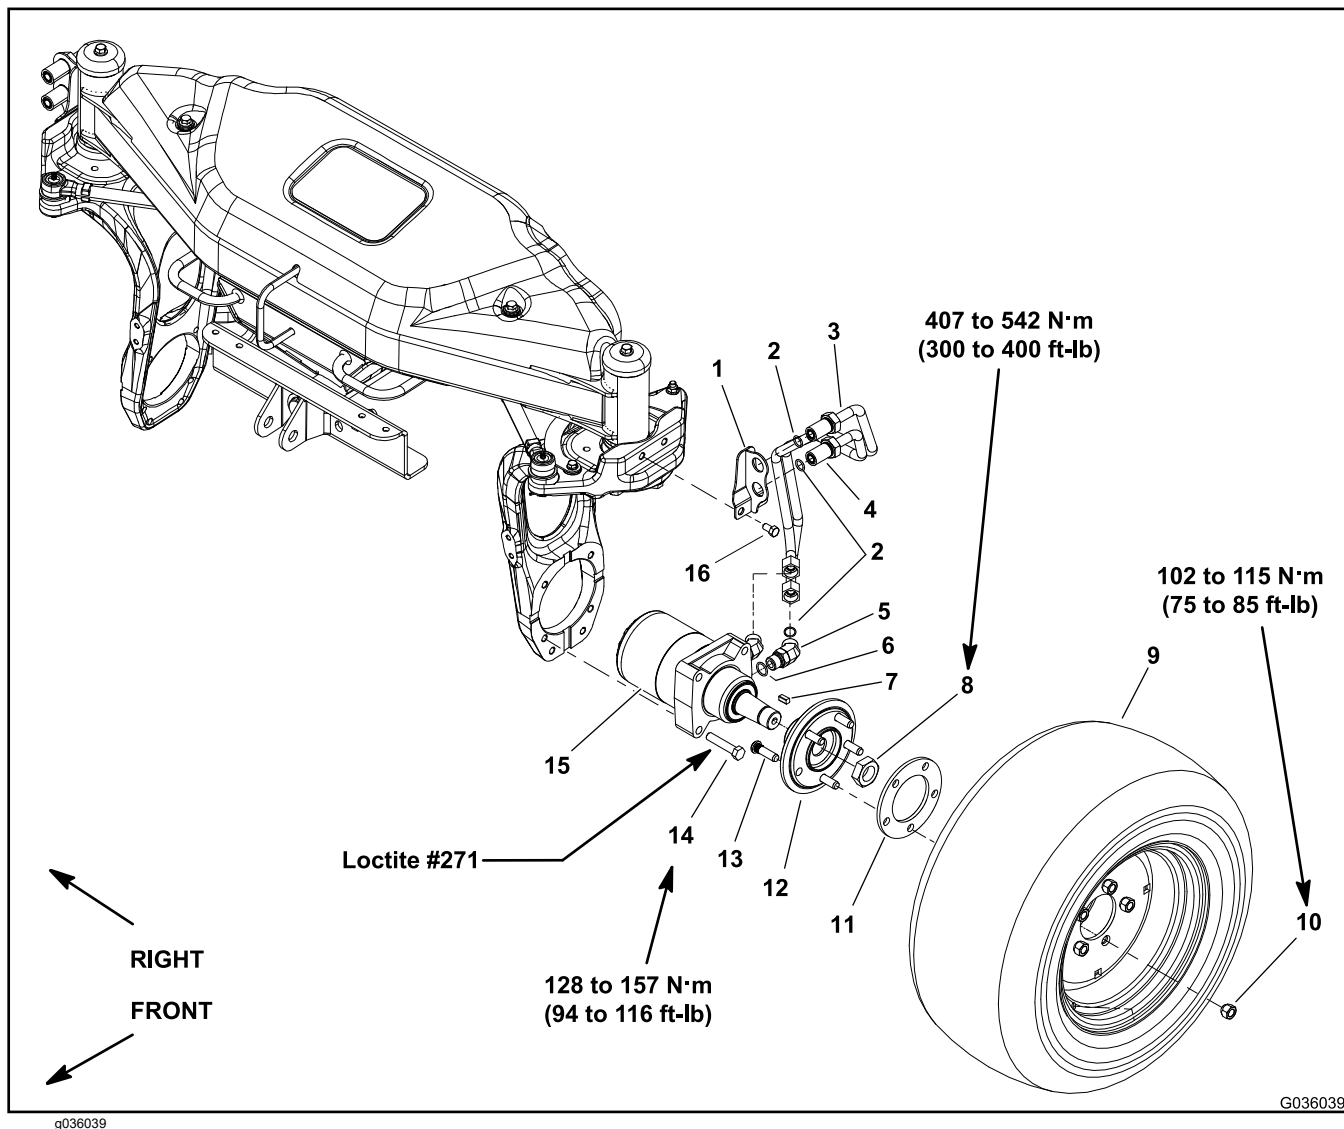

Figure 66
2. Loosen, but do not remove the locknut (item 8 in Figure 66) that secures the wheel hub to the wheel motor. Also, loosen the wheel-lug nuts.
4. Remove the front wheel from the machine; refer to Removing the Wheel \(page 6–14\). Remove the wheel spacer (item 11 in Figure 66).
5. Ensure that the locknut (item 8 in Figure 66) on the wheel motor shaft is loosened at least 2 turns. Use a hub puller (refer to Special Tools \(page 4–27\)) to loosen the wheel hub from the wheel motor.
7. Locate and retrieve the square key (item 7 in Figure 66).
12. Remove the 4 bolts (item 14 in Figure 66) that secure the wheel motor to the steering fork.
5. Insert the square key (item 7 in Figure 66) in the wheel motor shaft, then install the wheel hub onto the wheel motor shaft.
6. Install new locknut (item 8 in Figure 66) onto the wheel motor shaft to secure the wheel hub to the motor shaft.